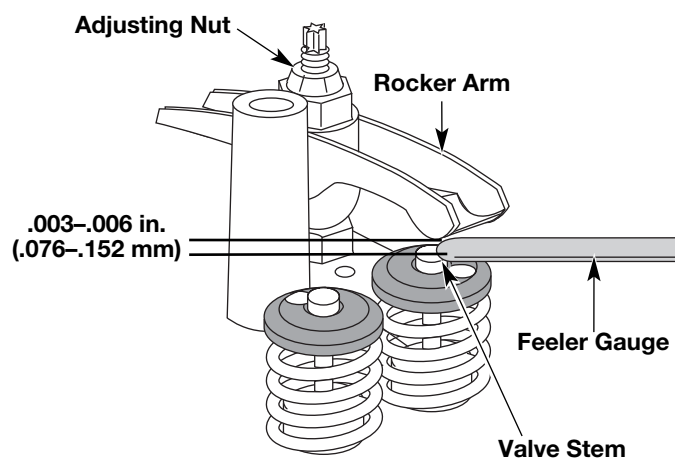

Fig. 39
- a. Turn the adjusting nut using a 5/16 inch (8 mm) wrench or nut driver (Fig. 39).